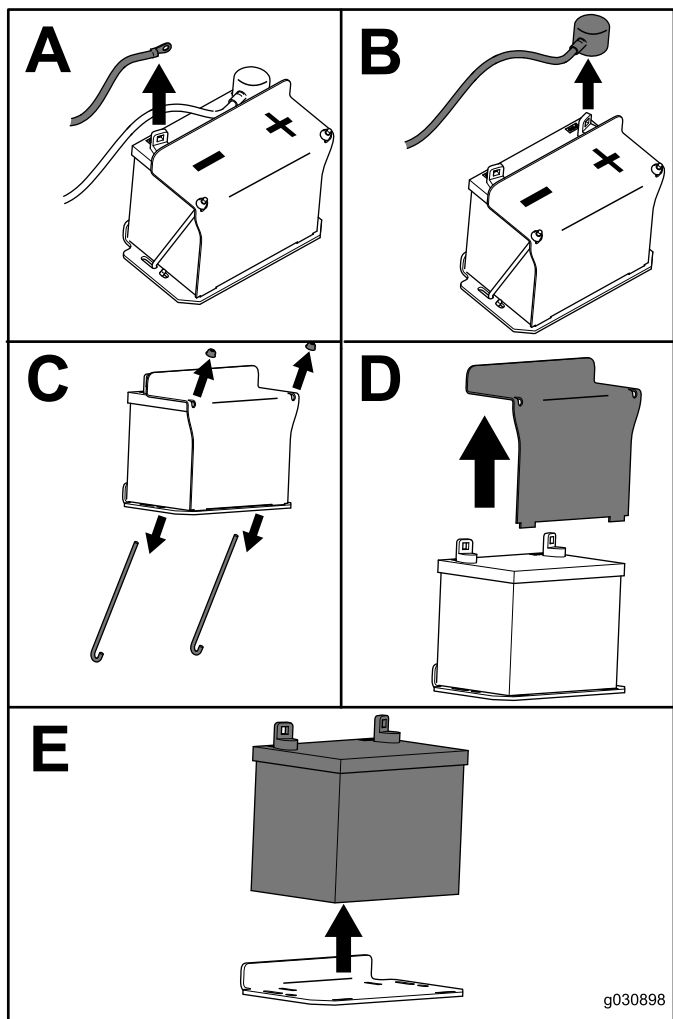

Figure 47
3. Remove the battery as shown in Figure 47.